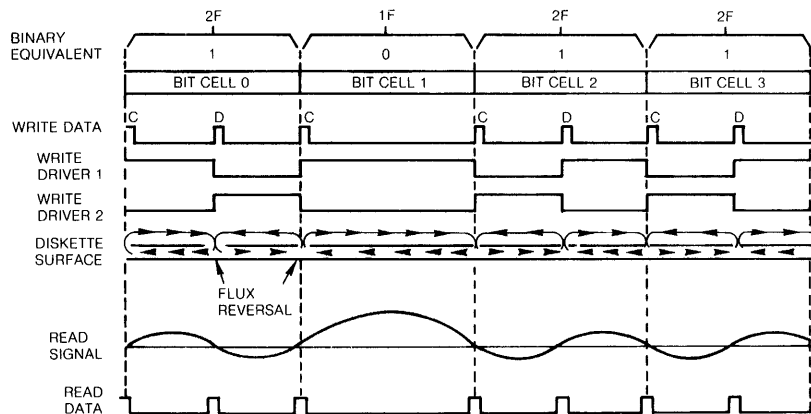

FIGURE 30. 1F AND 2F RECORDING FLUX AND PULSE RELATIONSHIP
1.4.5 Figure 30 shows the 1F and 2F recording flux transitions with pulse relationship.